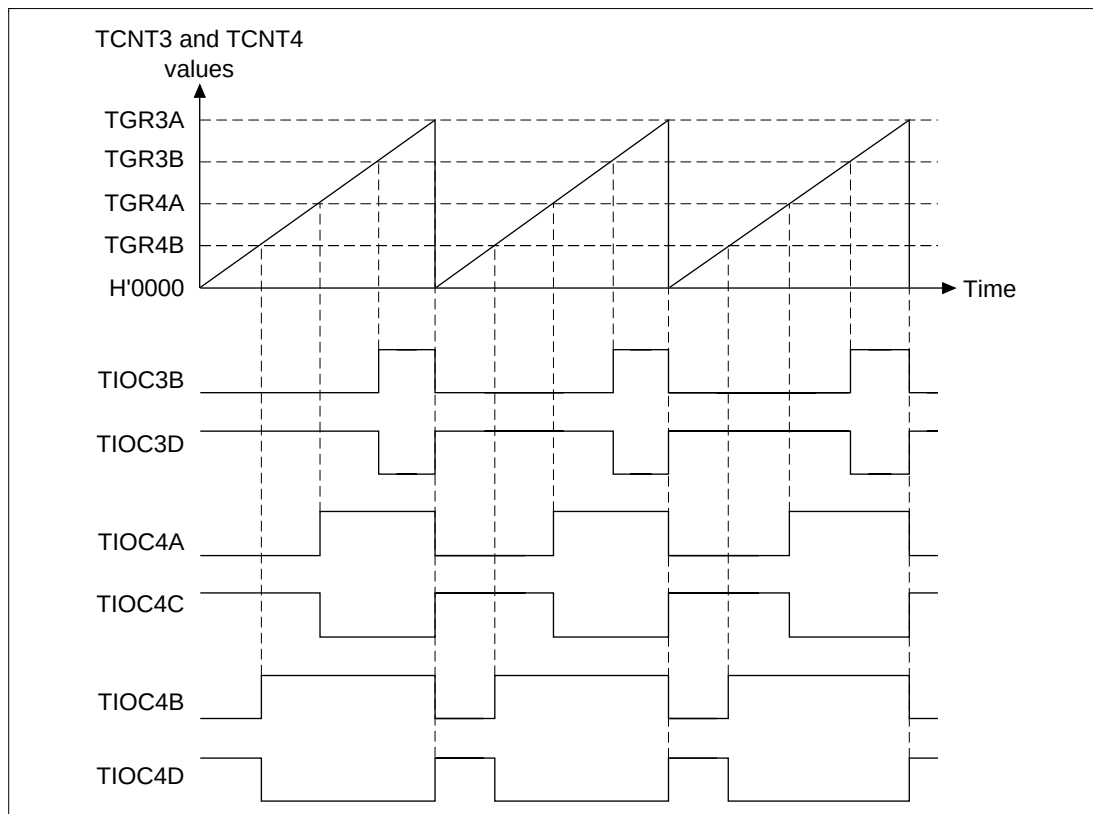

**Figure 12.36 Reset-Synchronized PWM Mode Operation Example (When the TOCR's OLSN = 1 and OLSP = 1)**
**Reset-Synchronized PWM Mode Operation:** Figure 12.36 shows an example of operation in the reset-synchronized PWM mode. TCNT3 and TCNT4 operate as upcounters. The counter is cleared when a TCNT3 and TGR3A compare-match occurs, and then begins incrementing from H'0000. The PWM output pin output toggles with each occurrence of a TGR3B, TGR4A, TGR4B compare-match, and upon counter clears.